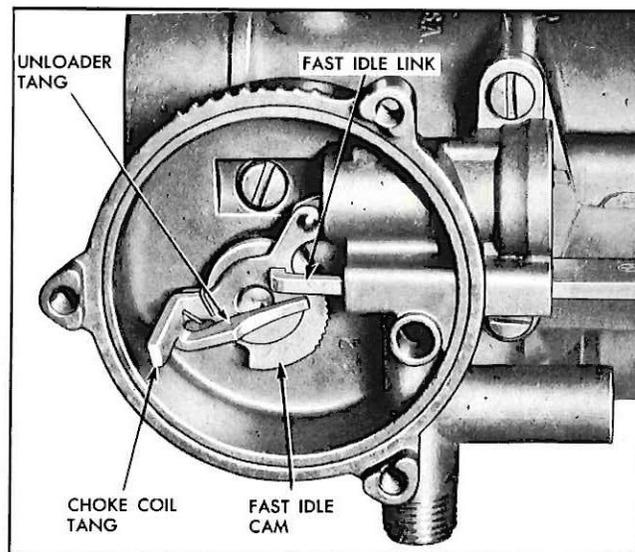

Fig. 19—Choke Housing and Fast Idle Linkage
14. Install fast idle link into choke housing and hook unloader projection over tang on fast idle cam assembly (fig. 19).